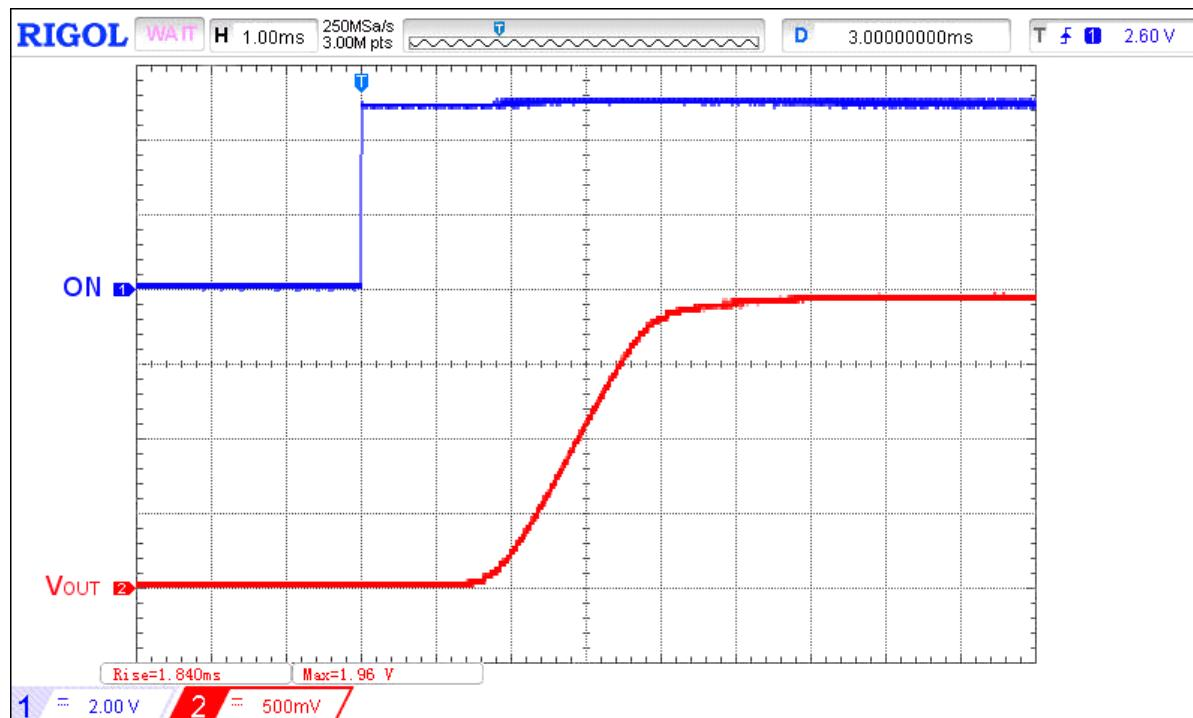

Figure 11. Linear and monotonic turn ON operation waveform for $V_{IN} = 2 \text{ V}$, $C_{LOAD} = 0.1 \mu\text{F}$, $R_{LOAD} = 2 \Omega$
1. $V_{\text{IN}} \geq 2 \text{ V}$, linear and monotonic power on ramp. (Figure 11)